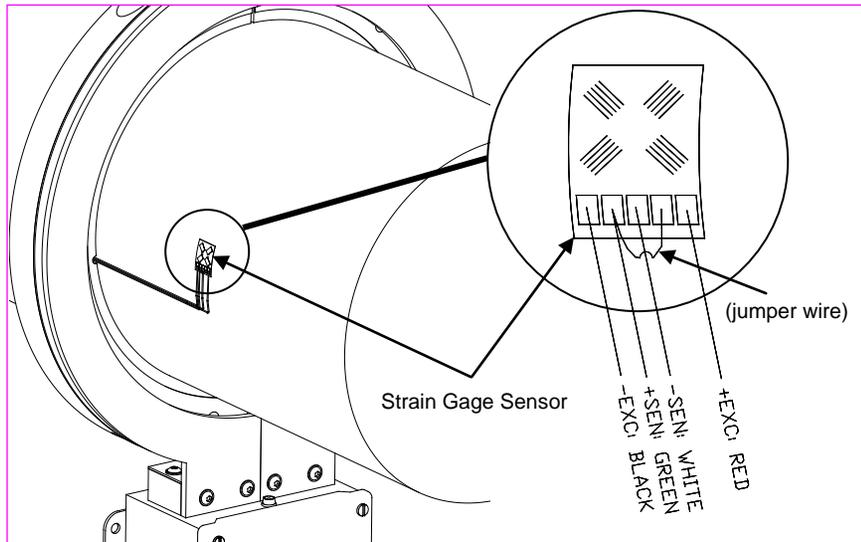

Figure 10 - Strain Gage Connections
2. Remove large bolts from Rotating Collar if necessary to separate parts. Apply anti-seize compound (provided) to the bolt threads. Reassemble collar on shaft adjacent to gage with ribbon cable from collar leading towards gage. (Refer to Figure 1 on page 3 or Figure 10 on page 20.) Make certain that connectors are properly aligned. Install opposing collar bolts from opposite directions to maintain balance. Tighten alternate bolts evenly until gap between collar halves is .100" (2.5mm) at all junctions. (See Figure 9 below.)
4. Securely mount Master Control Unit to machine or mounting bracket (not provided) so that the back surface of the Collar aligns with the back edge of the Mounting Block. (Refer to Figure 1 on page 3 or Figure 10 on page 20.) Additional support for the Power Coil may be required depending on the size and application; mounting tabs are incorporated into the larger Power Coil designs and brackets are included.
- Trim ribbon cable from Rotating Collar to length and retain the star bridge. (The star bridge has a built-in led that may be used to troubleshoot future errors.) Connect (solder) cable to sensor. (Refer to Figure 10 below.) Note: Keep ribbon cable as short as practical (6 to 8 inches typical) to avoid unwanted electrical noise. For long cable runs consider using shielded cable. Secure ribbon cable to shaft using adhesive or fiberglass tape or more permanent methods as appropriate.